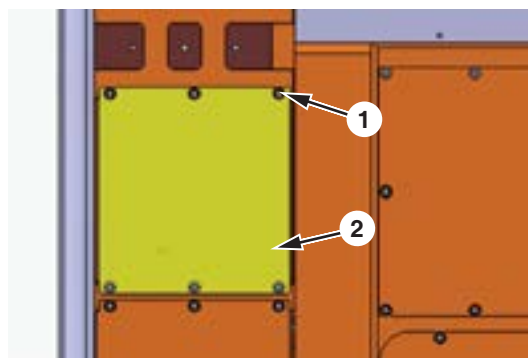

Figure 16 Bottom of Main Frame
20. Remove bolts and washers (1, Figure 16) (6 ea) under cover (2) on bottom of main frame.